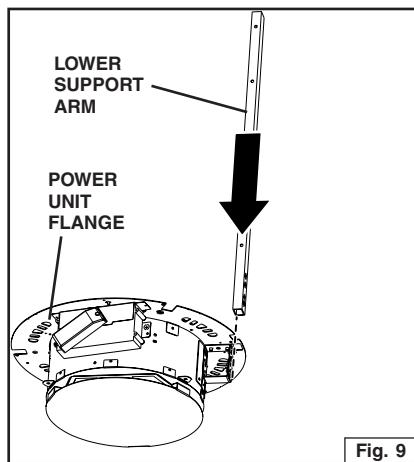

Fig. 9
1. Attach the lower support arms to each power unit. Slide the support arm through the slot in power unit flange. Fig. 9.